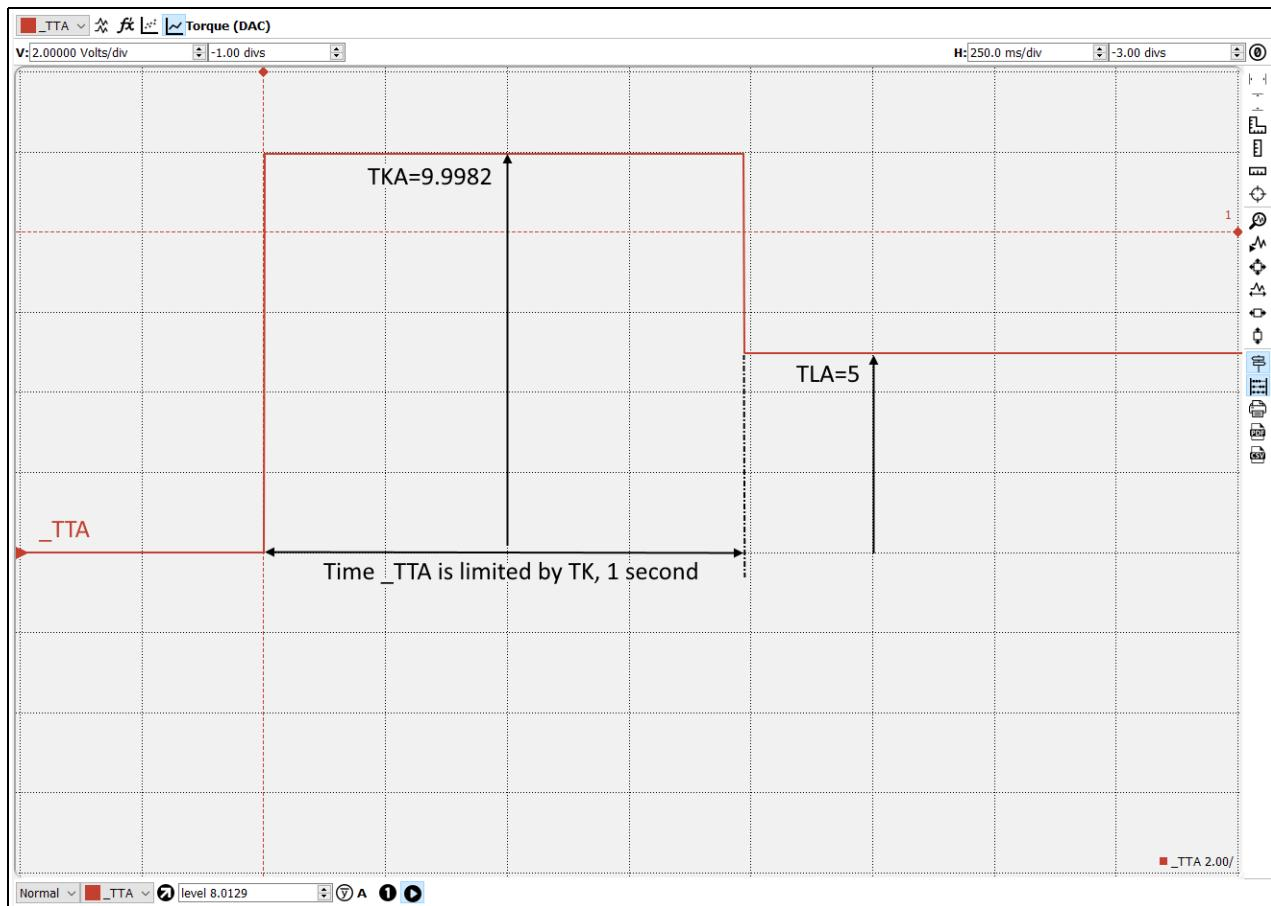

Figure A5.2: Peak Current Operation
The peak and continuous torque limits can be set through the TK and TL commands respectively. The controller will command the torque signal (TT) up to the value specified by TK for a maximum of one second, as shown in Figure A5.2. It will then limit the torque to the value specified by TL. The more time the controller commands the torque below TL, the longer it will command it to TK when necessary. The DMC code example below exhibits the behavior of TT being limited by TL and TK, as shown in Figure A5.2.